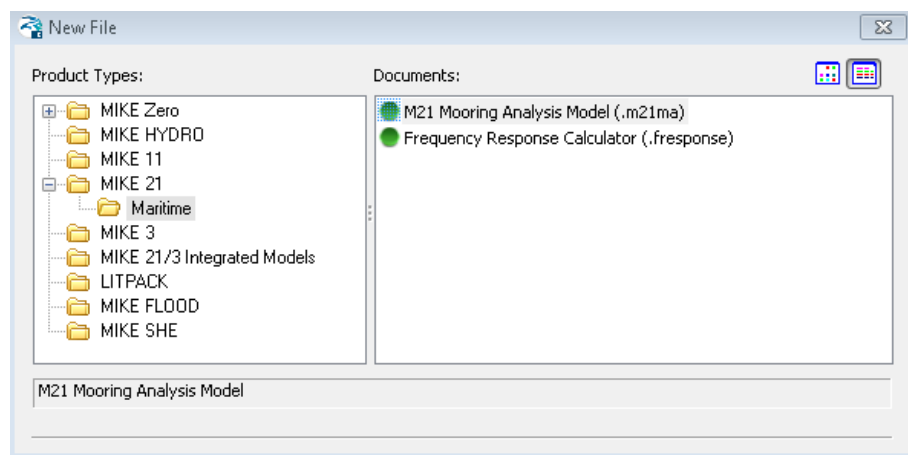
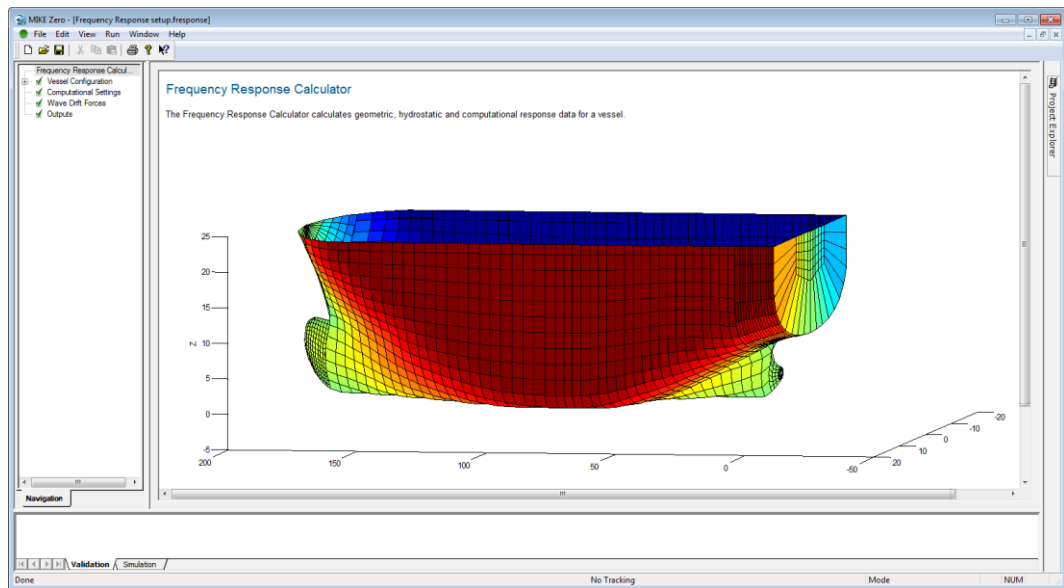

Figure 2.1 Location of Frequency Response Calculator setup editor
Figure 2.2 FRC main page
1. Create a new instance of the (.fresponse) editor as shown in Figure 2.1 by clicking **OK**. The FRC main page (Figure 2.2) should appear on the screen.